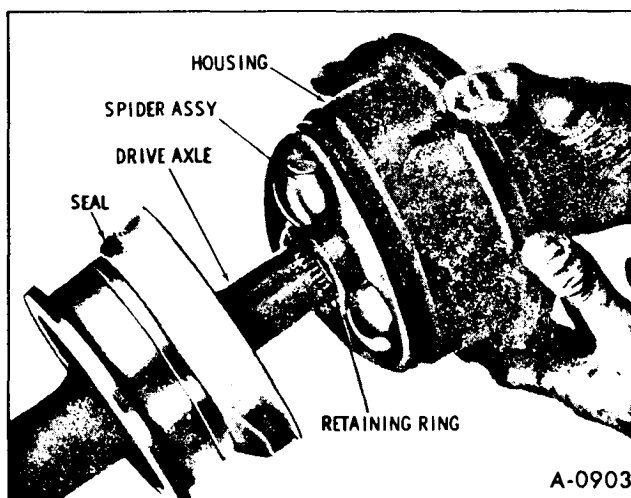

Figure 22—Removing Housing Assembly
2. Grasp axle assembly with one hand and joint housing with the other and stand both vertically on the bench. Carefully withdraw axle from housing, being certain not to lose the balls and needles from the axle. (Figure 22)
12. Position spider assembly in line with housing assembly and push into housing until bottomed. (figure 22)